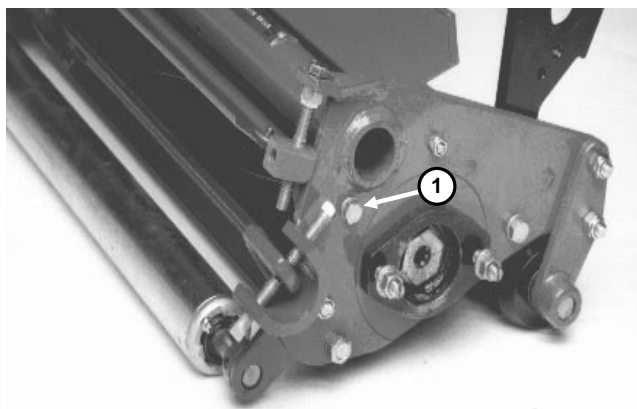

Figure 14
1. Loosen locking bolt on side of cutting unit (Fig. 14).